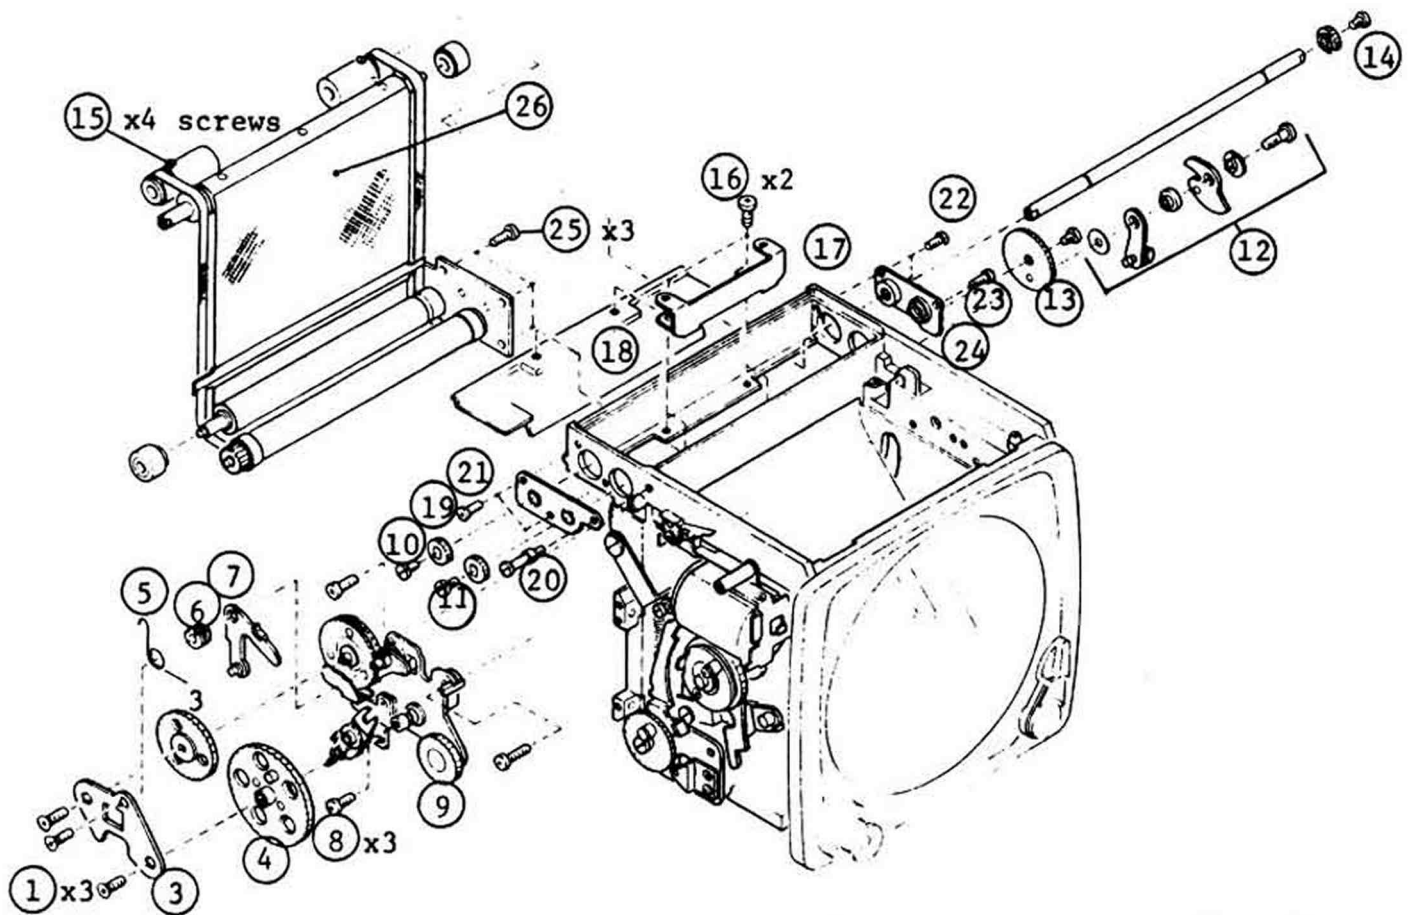

Fig. 18
The arabic numeral in a circle as shown in Fig. 18 indicates the procedure of disassembly.
- 3) Install SLT17101 Base plate and SLS 17451 Spring as shown in Fig. 18.